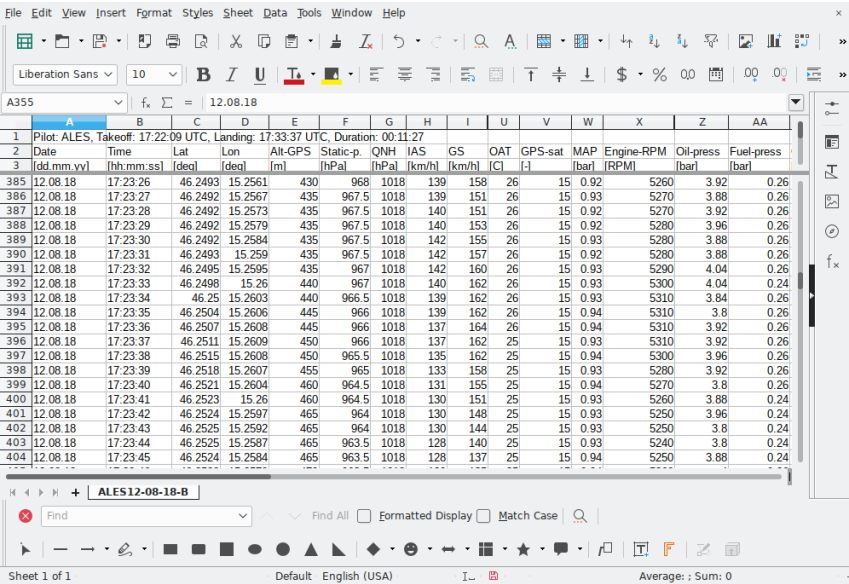

Figure 48: An example of flight details upon successful import. This figure is symbolic and your case will be different.
6. The result of the import is then shown in Figure 48. Some column widths were adjusted and some cells were hidden.
Please note that figure 48 is symbolic. Your case will be slightly different.